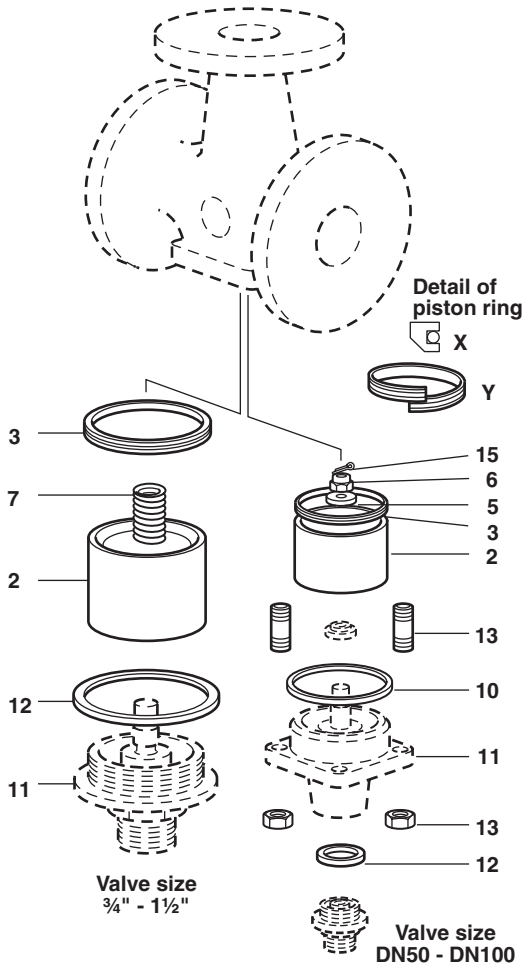

Fig. 11
4.3 How to replace the piston sealing ring (refer to Figure 11)